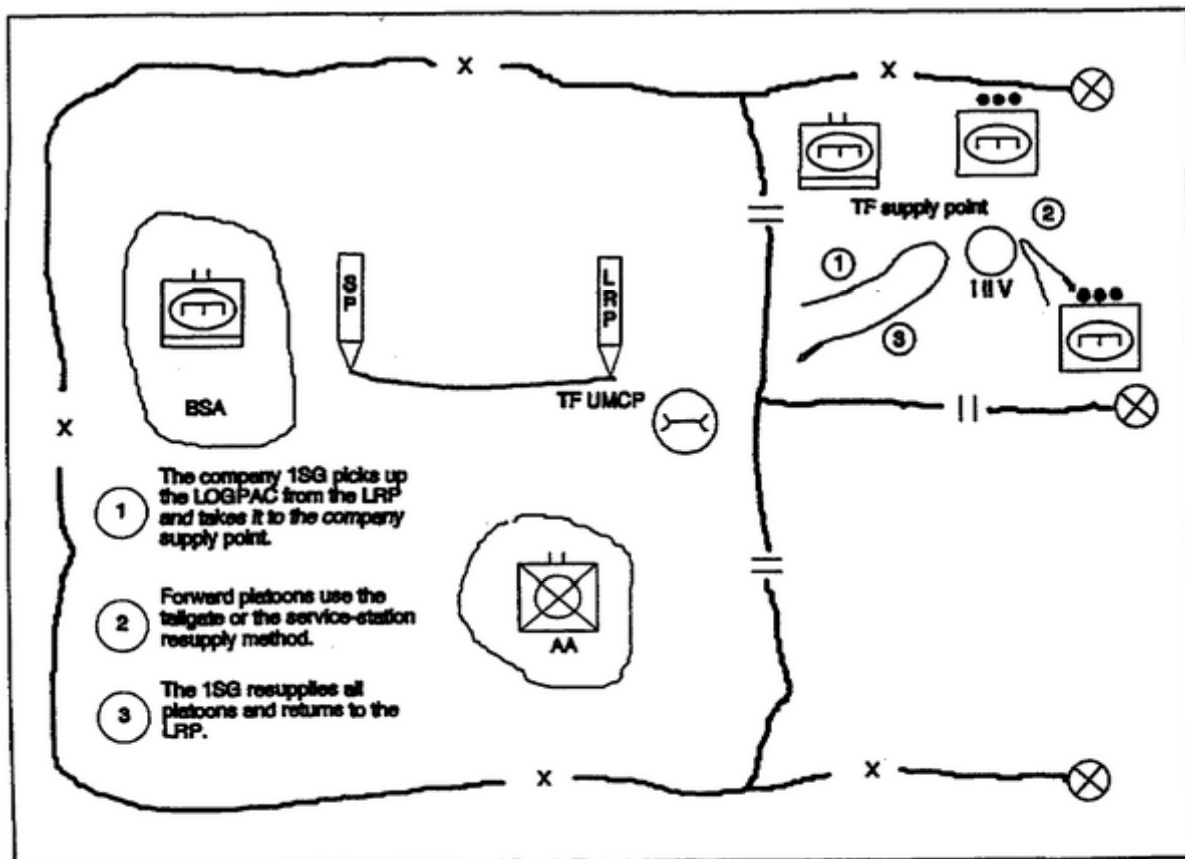

Figure 1-1. Combat service support laydown (one division engineer company).
- (1) Remember that resources are always limited. Materiel, transportation assets, and time affect the ability to execute plans.
- (2) Plan engineer-unit sustainment and the supporting logistics structure in detail. Logistics limitations may restrict the size of the usable engineer force.
- (3) Figure 1-1 shows how one division engineer company might pick up supplies. The division engineer battalion is a good place to examine this principle more closely. The task organization and maneuver unit support relationships of the division engineer battalion, and companies determine the scheme of logistical support. If the division engineer companies are in a support relationship, the division engineer battalion uses the logistical packaging (LOGPAC) system to support the companies. If the division engineer companies are in a command relationship with the supported unit, the maneuver unit must incorporate them into the maneuver units LOGPAC system. Each division engineer company and separate element in the division engineer battalion has a LOGPAC system. Each element integrates their LOGPAC into the maneuver LOGPAC resupply system and moves forward to a specified logistical release point (LRP) for routine resupply. The Supply Officer (US Army) (S4) works in conjunction with the headquarters and headquarters commander and each company executive officer (XO) to determine LRP locations. LRPs are located well forward based on the tactical situation.